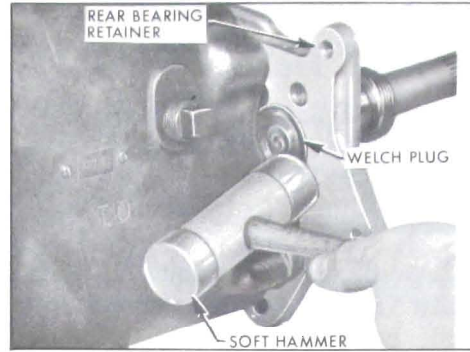

Figure 4-107—Installing Welch Plug
38. Rotate rear bearing retainer as shown in Figure 4-107 and install welch plug.